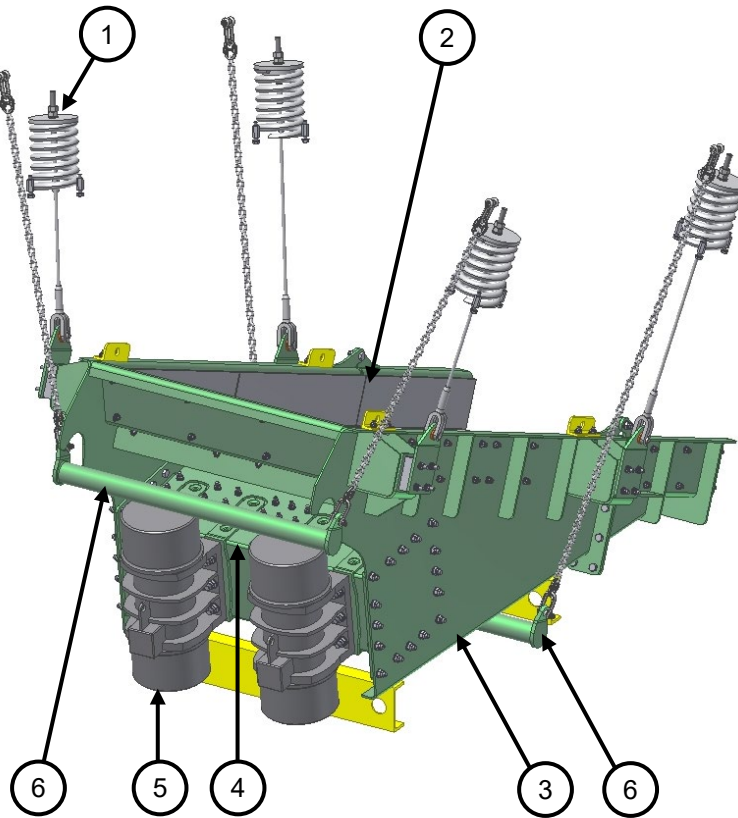

Figure 2.4-1 Main features of a suspended feeder
- Suspended feeder pictured in Figure 2.4-1